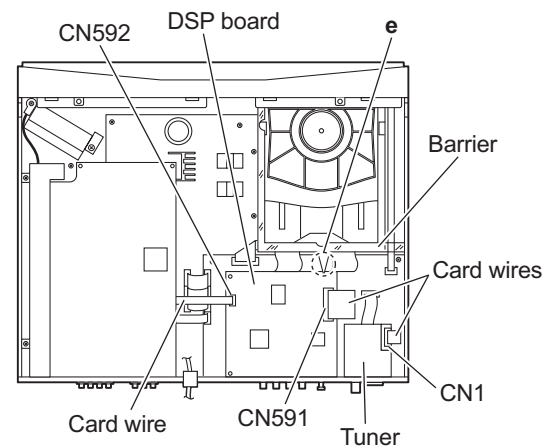

Fig.10
2.1.4 Removing the DSP board (See Figs.10 and 11.)
- (1) From the top side of the main body, disconnect the card wires from the connectors CN591 and CN592 on the DSP board. (See Fig.10.)
- (3) Remove the DSP board from the section e of the barrier, take out the DSP board. (See Fig.10.)
When attaching the DSP board, hang the DSP board to the section e of the barrier. (See Fig.10.)
2.1.5 Removing the tuner (See Figs.10 and 11.)
- (1) From the top side of the main body, disconnect the card wire from the connector CN1 on the tuner. (See Fig.10.)